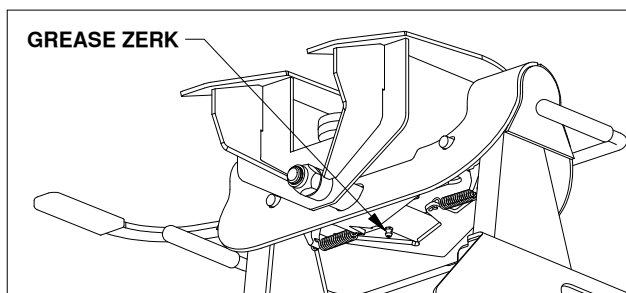

Figure G1: View under saddle.
- Grease the saddle through the grease zerk approximately every six months with multi-purpose grease. this allows the coupler to pivot freely, see Figure G1.